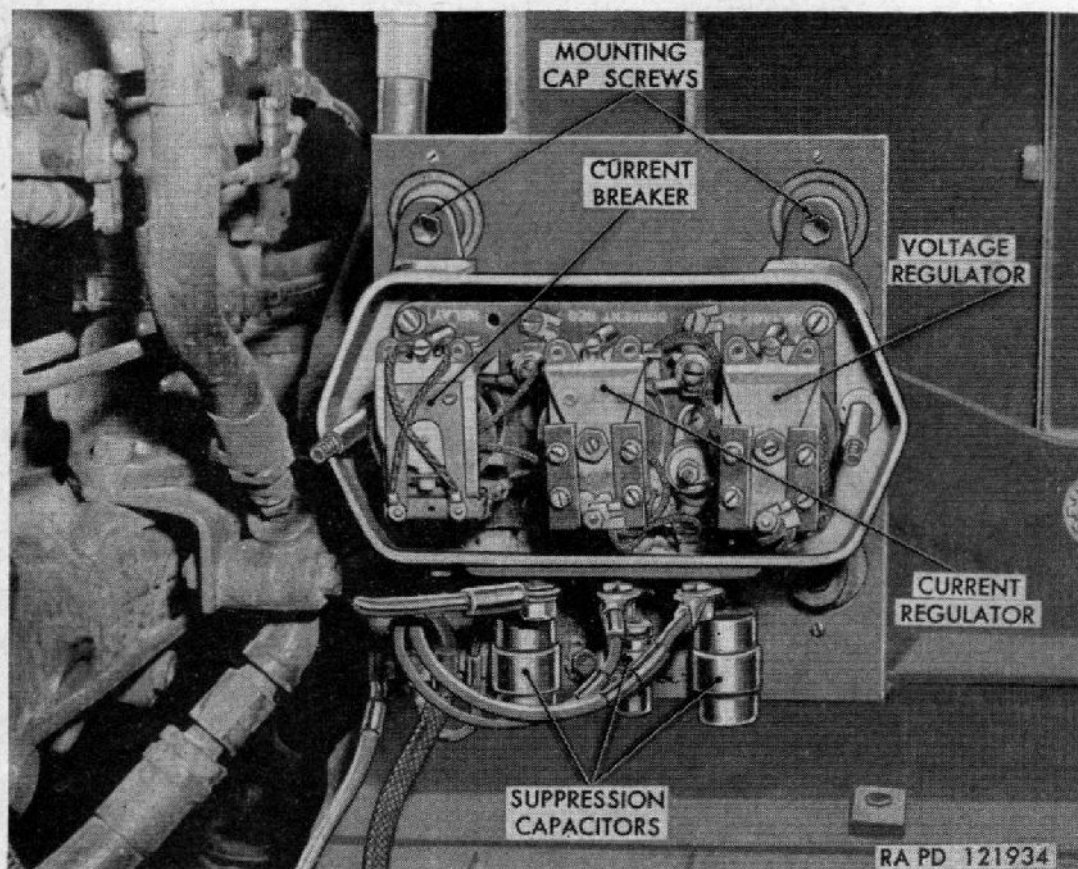

Figure 87. Generator regulator with cover removed.
- (4) *Generator regulator.* The generator regulator consists of three units, circuit breaker, voltage regulator, and current regulator. It is mounted on a bracket at the side of the right hand radiator (fig. 87).
b. Removal (fig. 87). Open engine compartment door on right side of tractor. Remove nuts from regulator terminals and lift wires from terminals. Install nuts and washers back on terminals to prevent their loss. Remove cap screw that connects regulator ground wire and clip on large wire to support bracket. Remove the four mounting cap screws attaching regulator to bracket (fig. 87) and remove assembly from vehicle.
c. Installation. Mount regulator on bracket with four cap screws and large washers (fig. 87) and connect wires as follows: connect wire from "A" terminals of generator to outer "ARMATURE" terminal